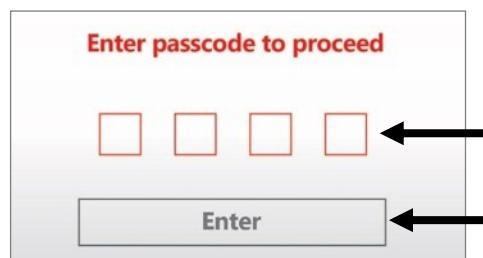

Fig 63. Enter Passcode
2. Enter the passcode and then press “Enter” (Fig 63).